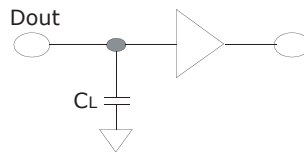

Figure 23. Output Load
- Output load (See Figure 23): $CL = 50pF$